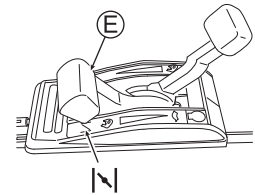

Fig. 12
3. Set the throttle lever (E) to choking "I/N". (See Fig. 12) (The engine can start by setting the lever at "I/N" when it is warm.)